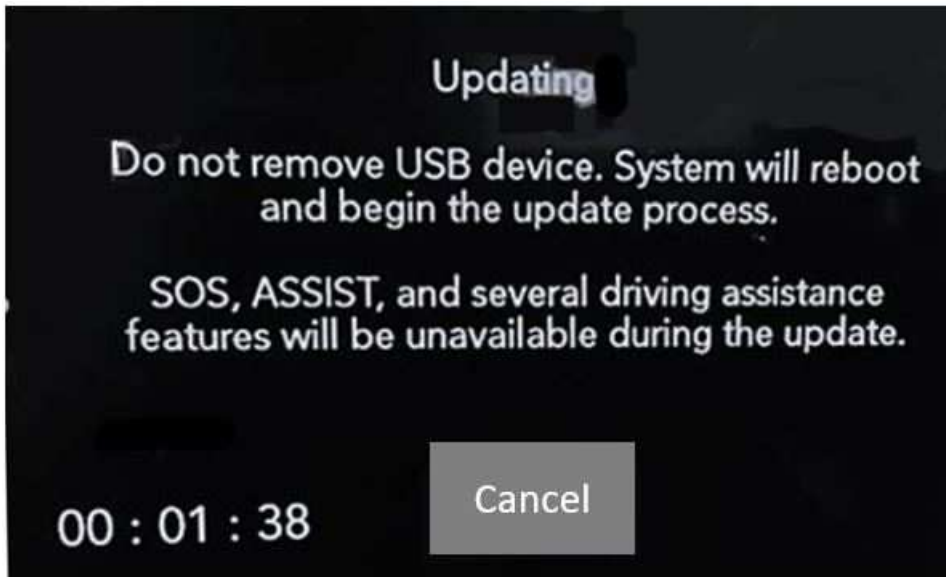

Fig. 9
NOTE: The ignition does not have to be turned off to perform this update. If the ignition is turned off before the two minute timer has expired, the update will be canceled. (Fig. 9) .
14. The ignition can be turned to the “off” position **after** the two minute timer has expired. The ignition can be cycled to the “run” position to monitor update status, (Fig. 9) .